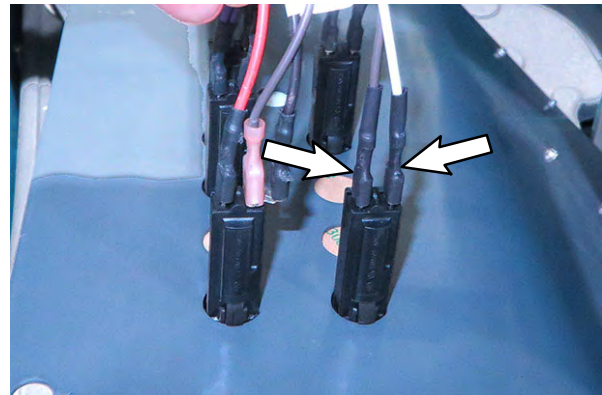

FIG. 10
18. Connect the blue spotlight harness (3) T1/T2 leads to the 2.5- Amp circuit breaker (14) installed in the previous step. (Fig. 10)